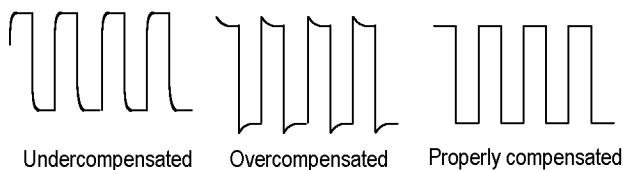

Figure 8: Probe compensation waveforms
8. Adjust the trimmer in the probe (accessible through the compensation box) until you see a square wave with a perfectly flat top on the display. (See Figure 8.)